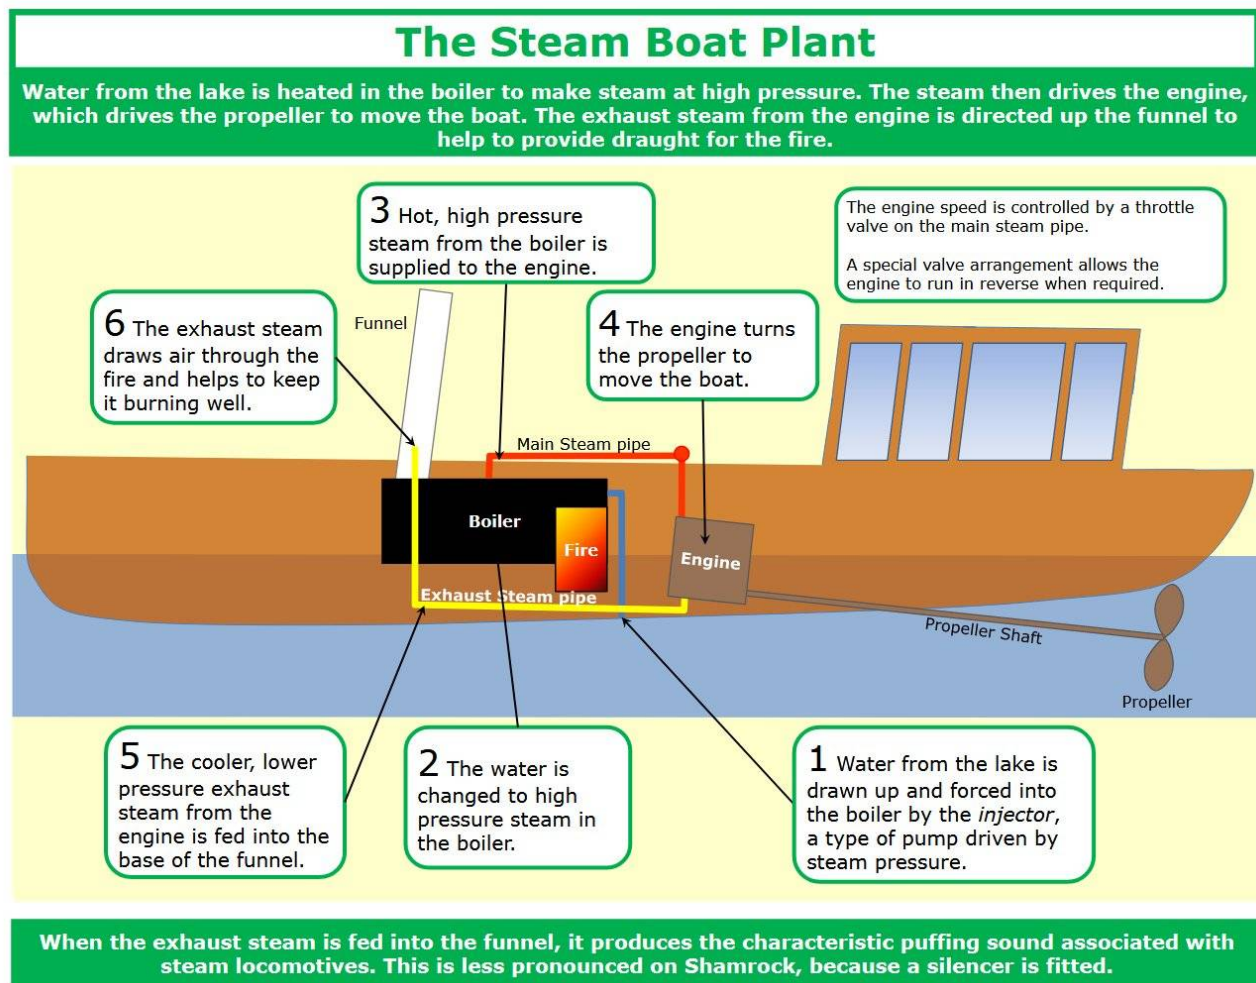

Figure 4: An Open Circuit (Puffing) Configuration
4. To keep running, we have to add more water to the boiler, and get rid of the steam which has done its work. There are two main set-ups for doing this: *open circuit* and *closed circuit*. If you have a good supply of clean fresh water (like a locomotive tender or a lake) you can keep pumping water in and letting the exhaust steam escape. This is open circuit. The exhaust steam is often directed up the funnel to help draw the fire, so this is also known as a 'puffing' configuration. A typical open circuit arrangement is shown in Figure 4.